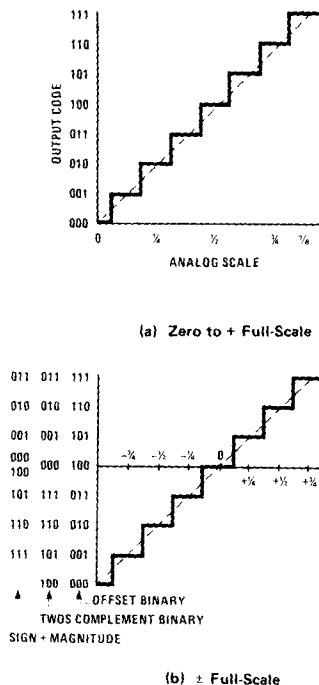

FIGURE 11. ADC Codes
**Offset Binary** is a natural binary code except that it is offset (usually  $\frac{1}{2}$  scale) in order to represent negative and positive values. Maximum negative scale is represented to be all "zeros" while maximum positive scale is represented as all "ones." Zero scale (actually center scale) is then represented as a leading "one" and all remaining "zeros." The comparison with binary is shown in figure 11.
**Twos Complement Binary** is an alternate and more widely used code to represent negative values. With this code, zero and positive values are represented as in natural binary while all negative values are represented in a twos complement form. That is, the twos complement of a number represents a negative value so that interface to a computer or microprocessor is simplified. The twos complement is formed by complementing each bit and then adding a 1; any overflow is neglected. The decimal number -8 is represented in twos complement as follows: start with binary code of decimal 8 (off scale for  $\pm$  representation in 4 bits so not a valid code in the  $\pm$  scale of 4 bits) which is 1000; complement it to 0111; add 0001 to get 1000. The comparison with offset binary is shown in figure 11. Note that the offset binary representation of the  $\pm$  scale differs from the twos complement representation only in that the MSB is complemented. The conversion from offset binary to twos complement only requires that the MSB be inverted.
**Sign Plus Magnitude** coding contains polarity information in the MSB (MSB = 1 indicates a negative sign); all other bits represent magnitude only. This code is compared to offset binary and twos complement in figure 11.